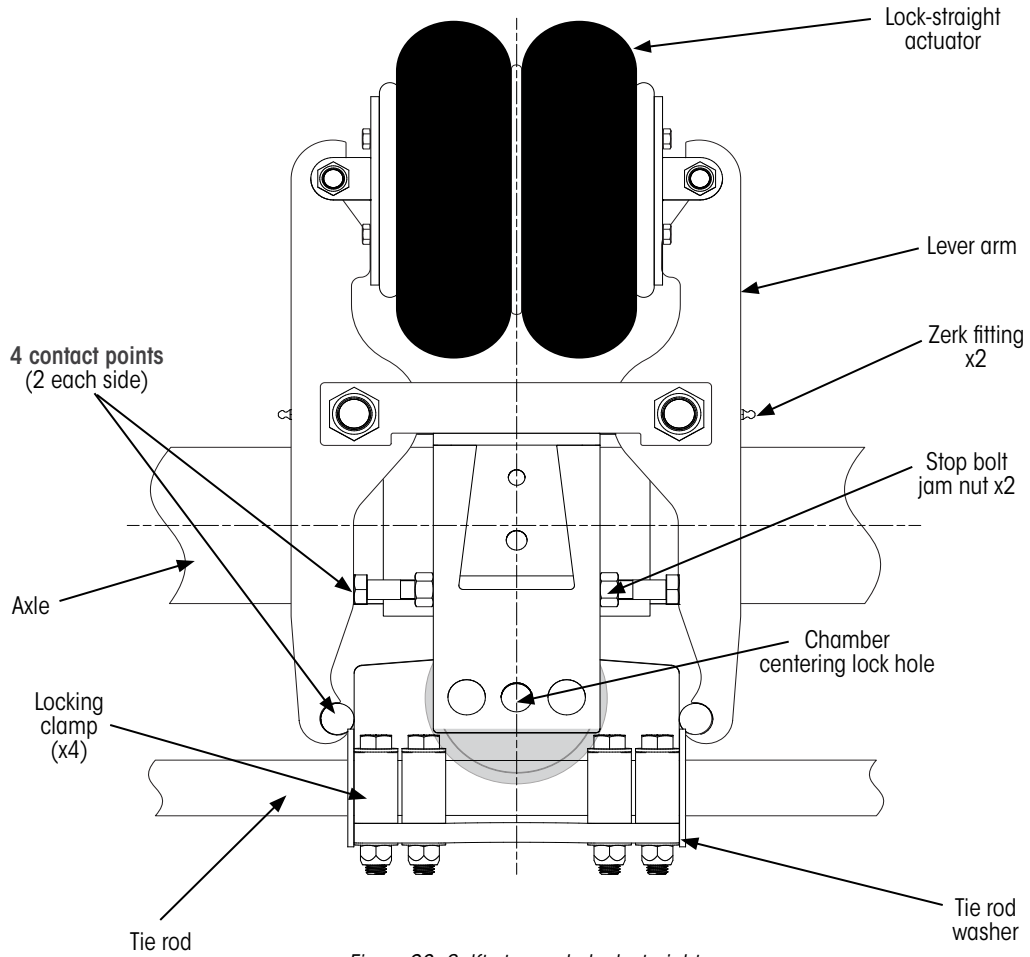

Figure 28: Self-steer axle lock-straight mechanism (bottom view)
During alignment or adjustment of the self-steer axle, the lock-straight assembly (Figure 28 on page 22) is used to lock the tie rod in the center position while the wheels are checked and/or adjusted to point straight forward on the trailer, with toe.
- B. No excess **wear** at the four lever arm contact points (Figure 28 on page 22) and pivot points.
- C. Verify all four contact points are met (Figure 28 on page 22). If they are not met loosen lock straight stop bolt jam nuts and adjust bolt length until achieved. Retighten jam nuts per specified torque.
- NOTE:** If properly positioned, tie rod washers (Figure 28 on page 22) should maintain wheel center position after clamps are loosened. These washers are typically tack welded in position during initial suspension installation or when replacing a tie rod assembly.